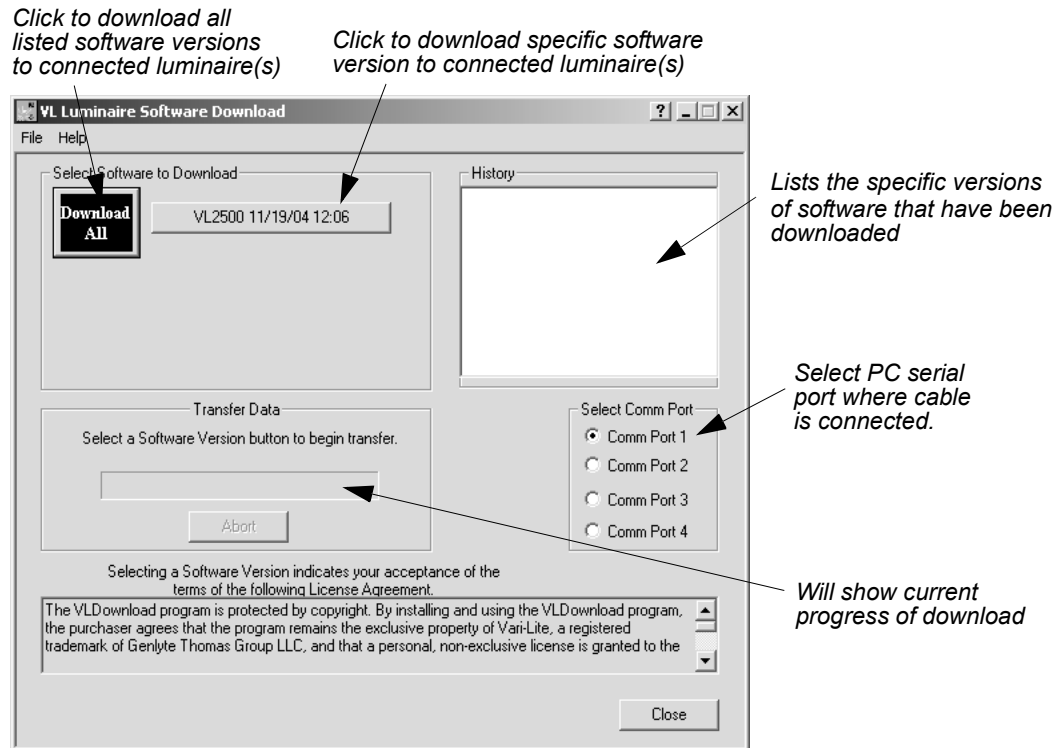

Figure 3-6: Download Interface Window
- Step 6. At **Select Comm Port** section of window (refer to Figure 3-6 on next page), select serial Comm Port (Comm Port 1, Comm Port 2, Comm Port 3, or Comm Port 4) where *Serial Straight Thru Cable* is connected.